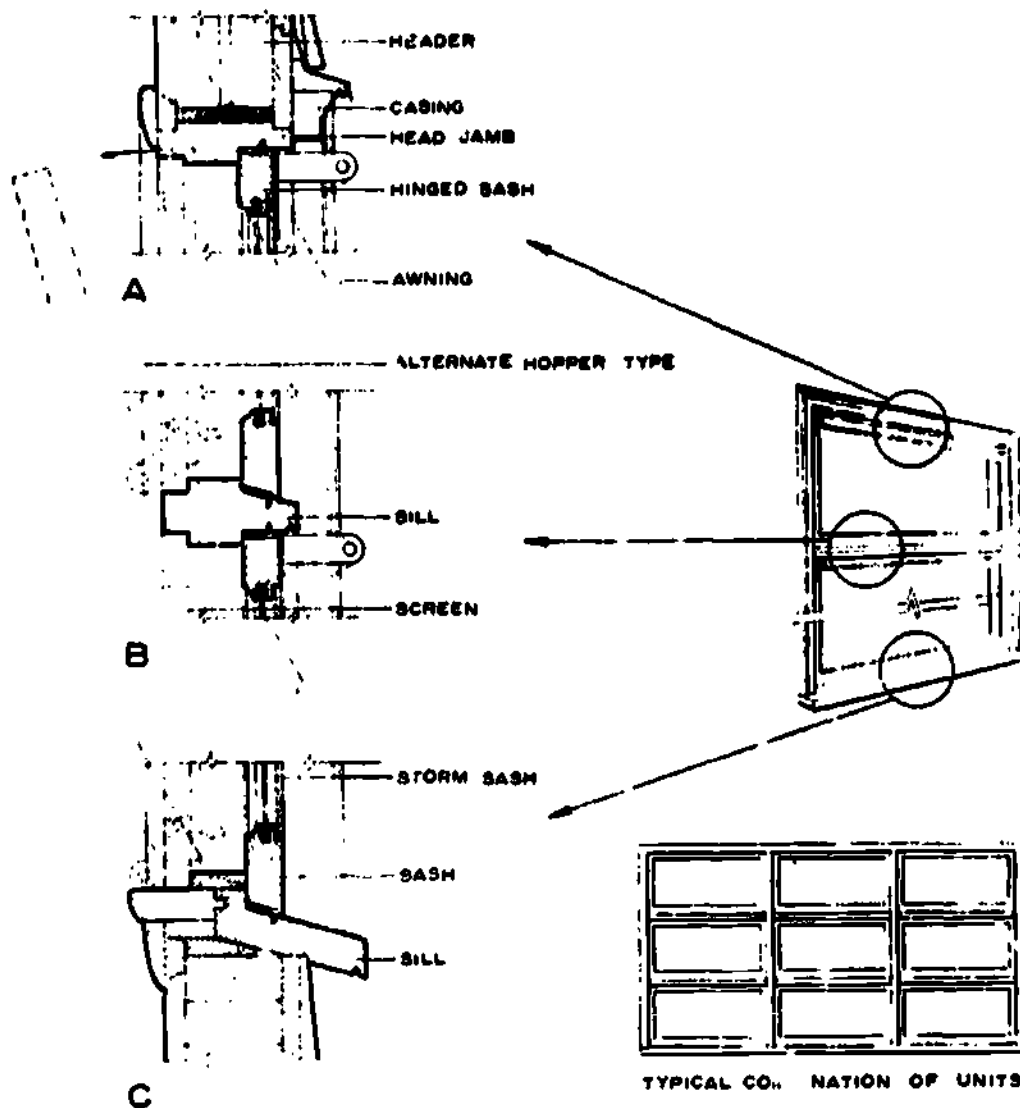

Fig 3-31. Awning window details.
Details shown of awning windows. An awning window unit consists of a frame in which one or more operative sashes are installed. The sashes of the awning type window are made to swing outward at the bottom. A similar unit, called the hopper type, is one in which the top of the sash swings inward. Figure 3-31 shows an awning type window with three (3) details and a typical combination of several awning windows in one unit. View A of figure 3-31 shows a cross section view of the head. View B is a cross section view of the horizontal mullion between the top and bottom sash. View C is a cross section view of the sill. The phantom lines in views A, B, and C represent the swing of the hopper type window.